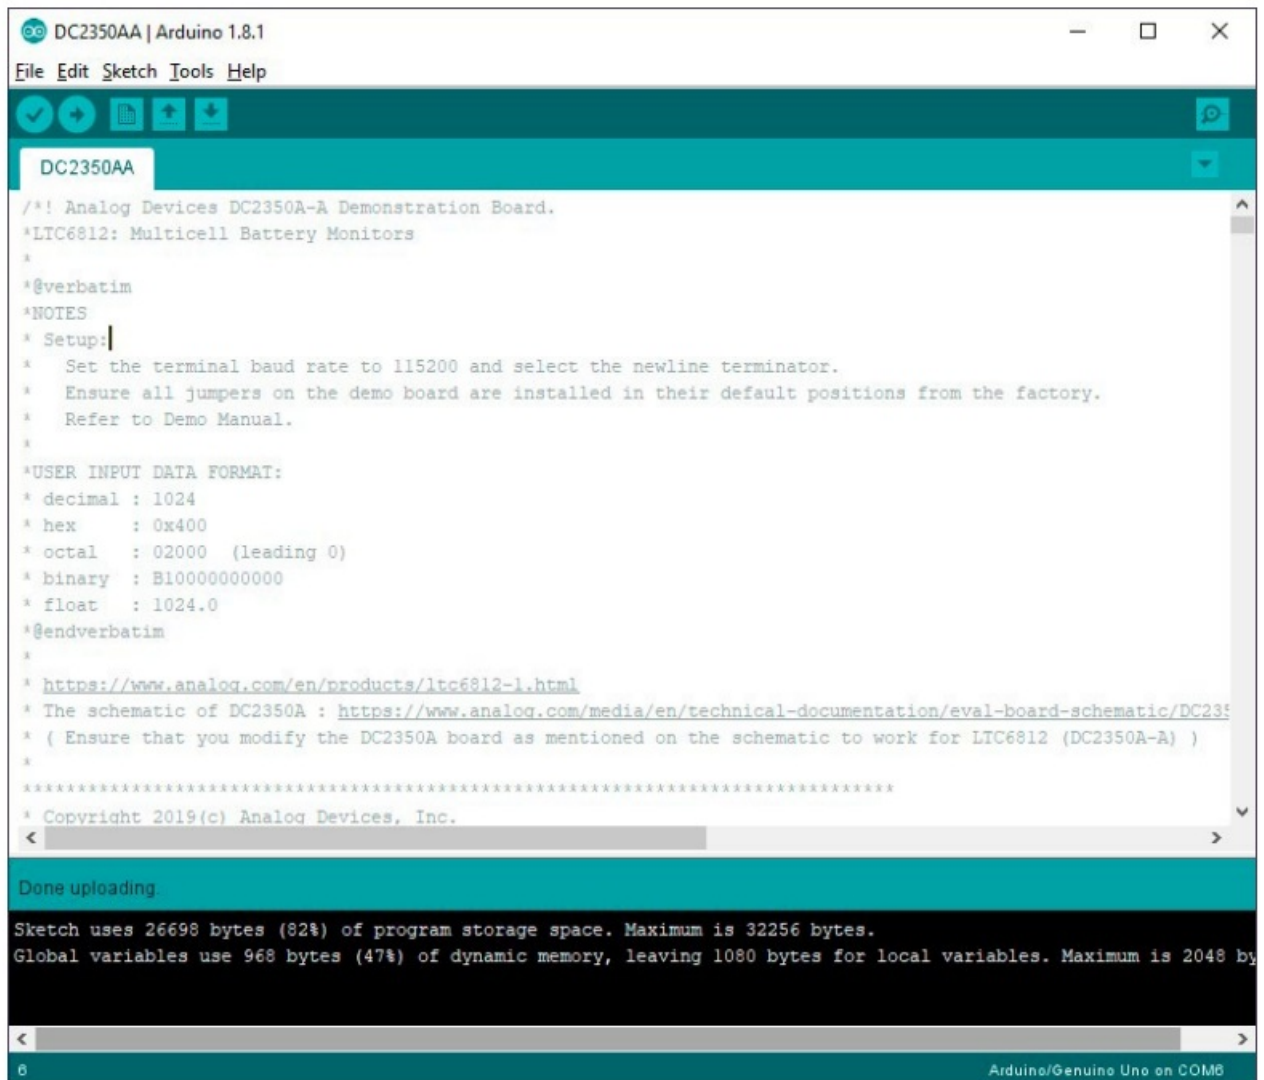

Figure 8. Uploading DC2350AA Sketch
7. Upload the DC2350AA sketch onto the DC2026 by clicking on the Upload button on the top left corner. When this process is completed there will be a Done Uploading message on the bottom left corner (see Figure 8).